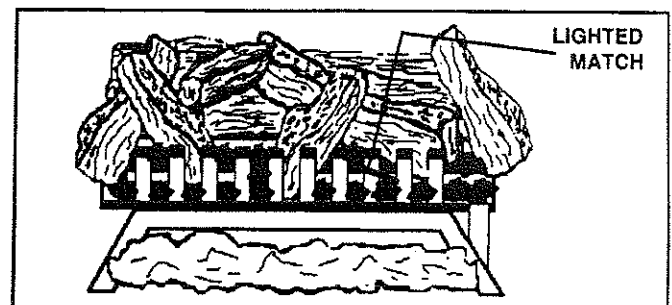

Figure 8A. The lighting of the log set final log placement for the Country Oak and Winter Oak Systems.
Arrange top logs as shown in Figures 8A-E.
- C. Lay a match on top of the embers and ceramic fiber coals in the top burner. **Do not hold match in hand.** (See Figure 8A)